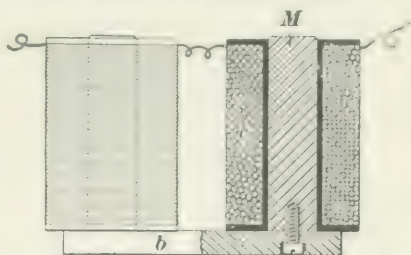
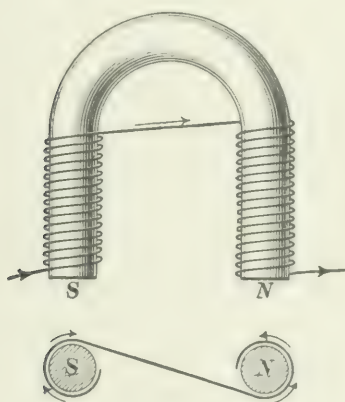

FIG. 29.
FIG. 30.
32. The most convenient form of electromagnet for a great variety of uses is the *horseshoe*, or *U-shaped*, electromagnet, Fig. 30. It consists of a bar of iron bent into the shape of a horseshoe with straight ends and provided with two magnetizing coils, one on each end of the magnet. The two ends which are surrounded by the coils are the *cores* of the magnet, and the arc-shaped piece of iron joining them together is known as the *yoke* of the magnet. The ordinary *U-shaped* electromagnet is made in three parts, namely, two iron cores wound with the magnetizing coils, and a straight bar of iron joining the two cores together for a yoke,
as shown in Fig. 29. In looking at the free ends of the two cores, Fig. 30, the current should circulate around one core in an opposite direction to that around the other. If the current circulates around both cores in the same direction, the lines of force produced in the two cores, respectively, oppose one another, forming two like poles at their free ends and a *consequent pole* in the yoke. The total number of lines of force produced by both coils will be greatly diminished,